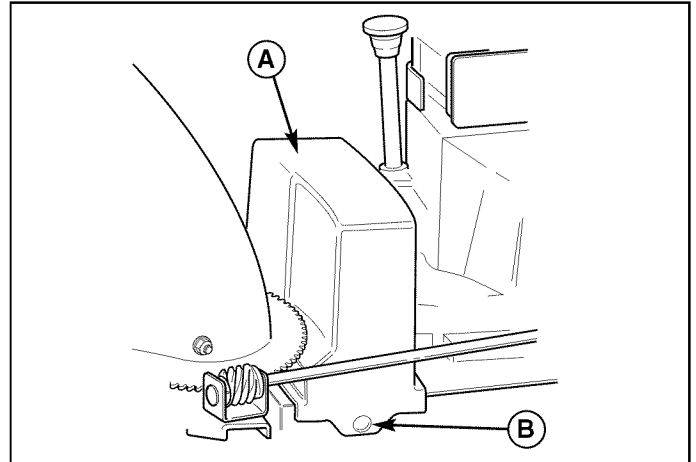

Figure 27. Belt Cover
1. Turn off the engine, remove the spark plug wire, and wait for all moving parts to stop. Rotate the spout full right. Loosen the two screws (B, Figure 27) securing the belt cover.